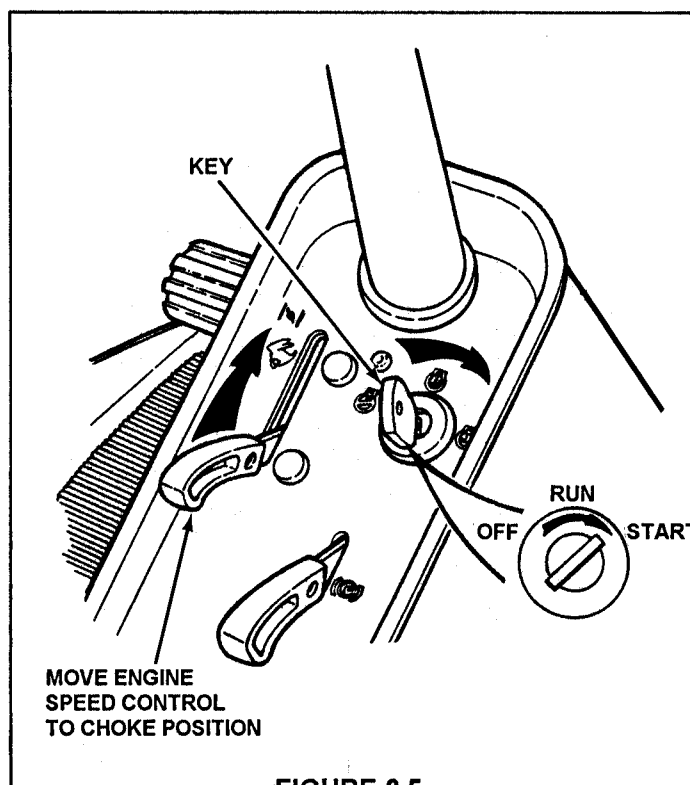

FIGURE 2.5
4. Move engine speed control to the choke position to start a cold engine. See Figure 2.5.
5. Turn key to the "START" position until engine starts. See Figure 2.5.
2. Turn key to "RUN" position. Refer to Figure 2.5.